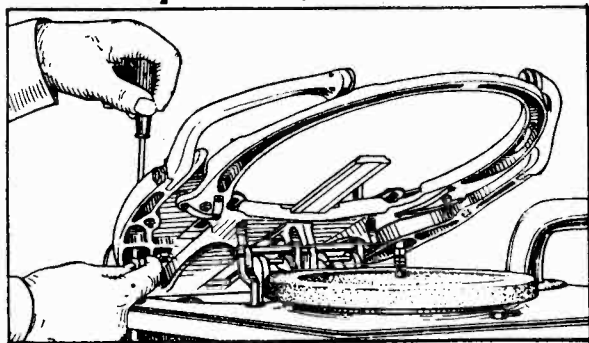

Fig. 6—Adjusting Height of Hopper
1. Loosen the hopper support screws as shown in Fig. 6.